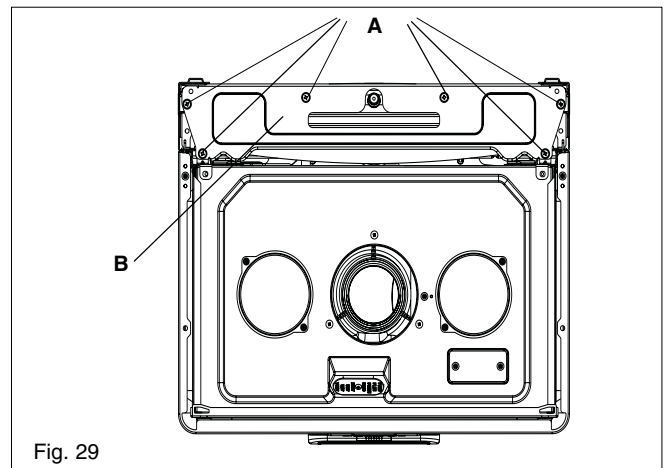

Fig. 29
6.18.1 EXPANSION VESSEL REMOVAL (with sufficient clearance above, fig. 29)